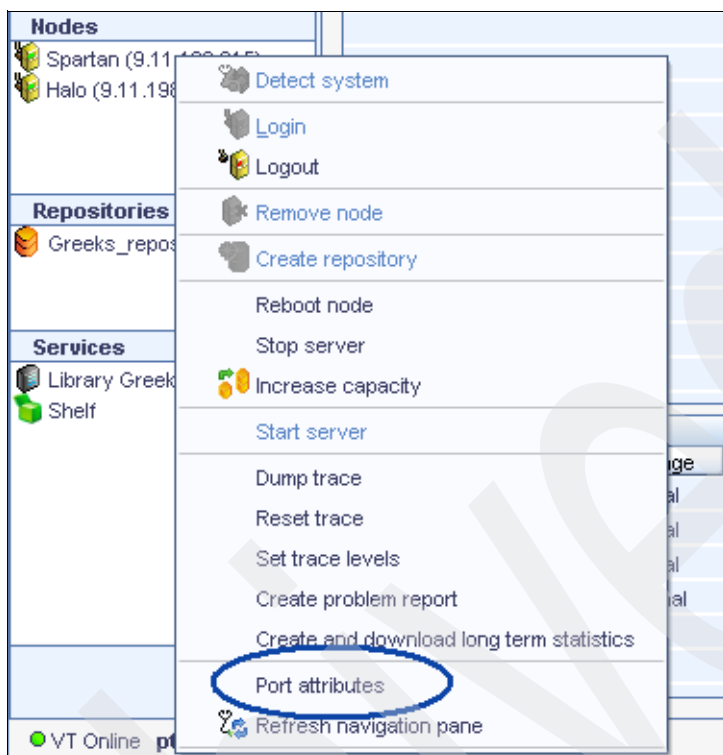

Figure 6-42 PT Manager_Port attributes
- a. Select the **node** and right-click it. A menu will appear with the node options. Select **Port attributes** from this menu. See Figure 6-42.